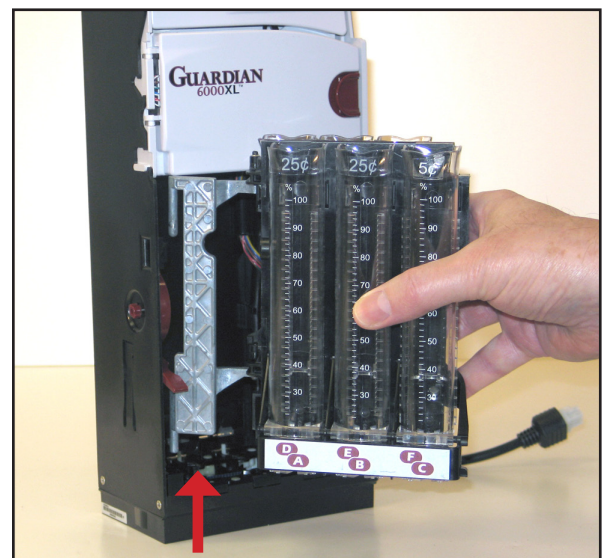

Figure 7
- **By Removing Cassette:** The cassette can also be lifted out of the changer for loading coins. Open the Payout Cassette and swing it out, then lift the Payout Cassette straight up to remove it (See Figure 7). Load coins as described above. Reinstall the Payout Cassette by first positioning it on the upper pin, then align the lower pin and lower the cassette onto the hinge. Close the cassette.